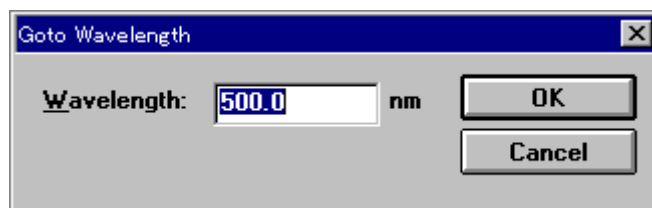

Figure 4.16 [Goto Wavelength] dialog box
- <Go to W L...> Moves the wavelength of the spectrophotometer to a set wavelength (see Fig. 4.16).